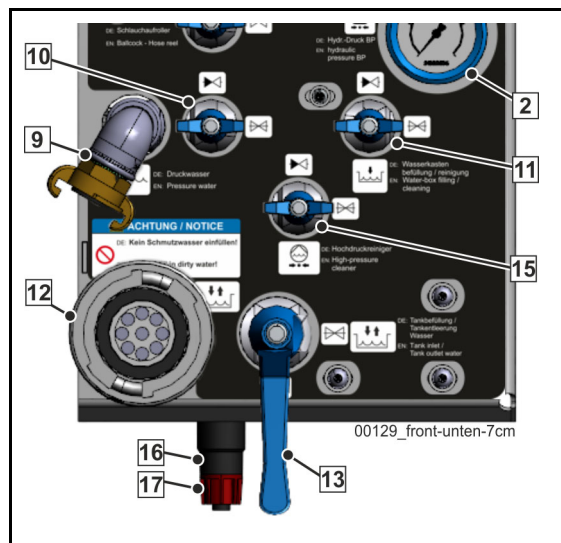

Fig. 435
- Lock the connection to the water case by switching the ball valve (15) (**Fig. 435**) on the supply control.